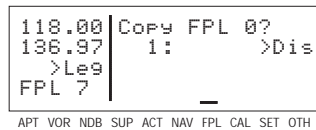

Figure 4-96
2. Select a flight plan page (preferably other than FPL 0) which does not contain a flight plan (figure 4-96). If all of the flight plan pages contain flight plans, refer to section 4.9.6, "Deleting Flight Plans".